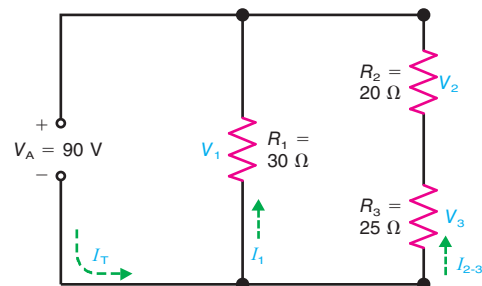

Figure 7-6 Finding all currents and voltages by calculating the branch currents first. See text for solution.
The circuits in Figs. 7-6 to 7-8 will be solved now. The following principles are illustrated:
1. With parallel strings across the main line, the branch currents and I_T can be found without R_T (see Fig. 7-6).
Solution for Figure 7-6